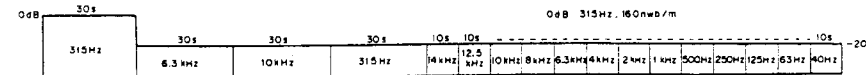

Fig. 9-1 . Constants of the test tape STD-331B
- STD-331B :Playback adjustments (See Fig.9-1)